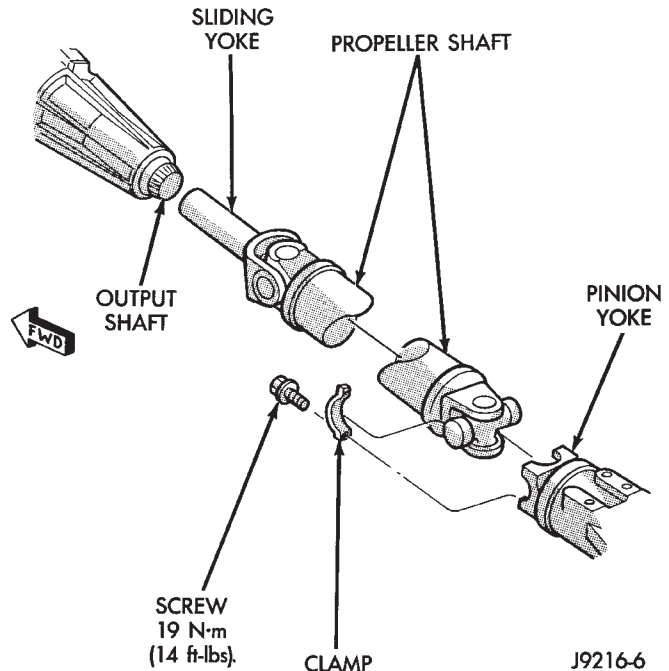

Fig. 14 Rear Propeller Shaft
- (1) Raise and support vehicle on safety stands.
- (2) Shift the transmission and transfer case, if necessary, to their Neutral positions.
- (3) Using a suitable marker, mark a line across the axle pinion yoke and the propeller shaft yoke for installation reference.
- (4) Remove the bolts holding the universal joint clamps to the pinion yoke.
- (5) Slide the slip yoke off of the transmission, or transfer case, output shaft and remove the propeller shaft (Fig. 14).